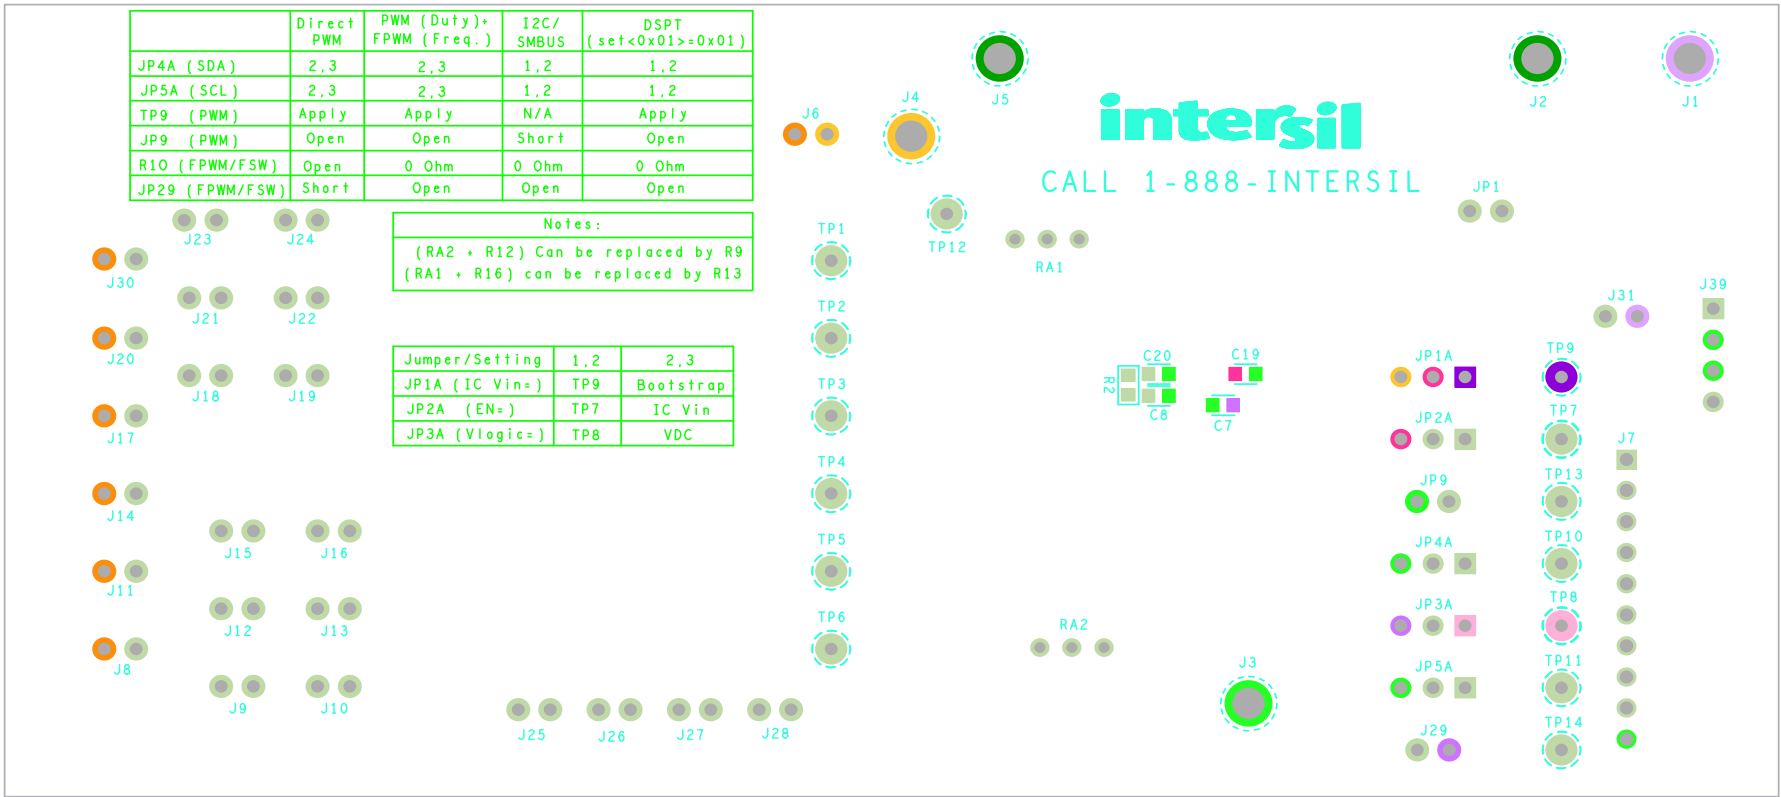

FIGURE 6. SILKSCREEN BOTTOM
9. The configuration of VIN (JP1A), EN (JP2A) and VLOGIC (JP3A) can be quickly found by referring to the table printed on the bottom of the evaluation board, as shown in Figure 6 on page 7.
10. There are 4 different operation modes for ISL78171. The setting for each mode is shown on the other table printed on the bottom of the evaluation board, as shown in Figure 6 on page 7.